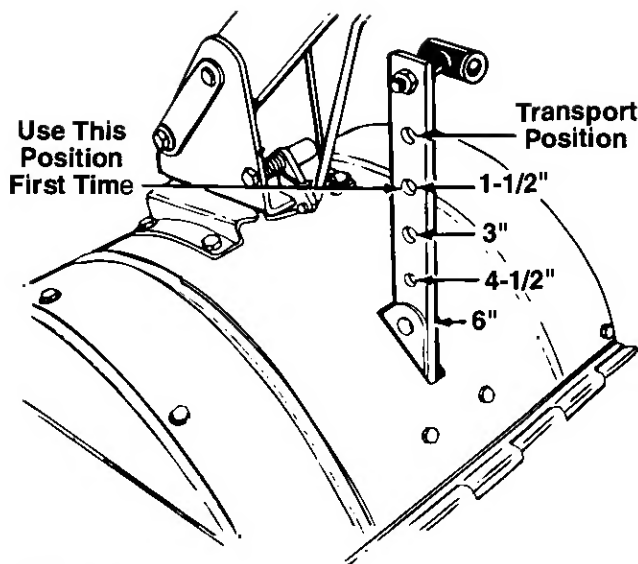
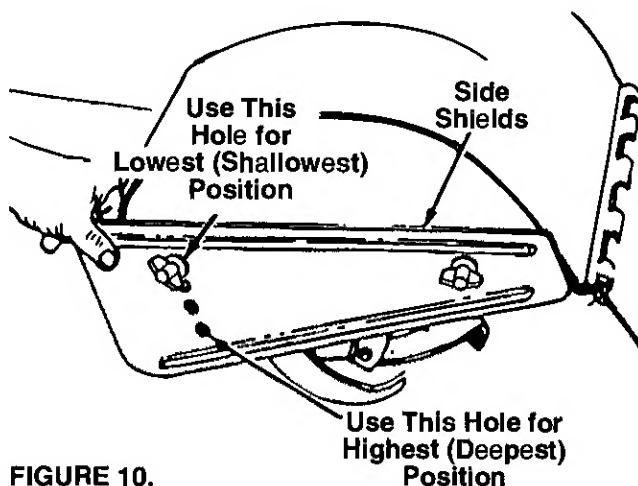

FIGURE 9.
FIGURE 10.
WARNING: When operating the tiller for the first time, use the depth stake setting that gives 1-1/2 inches of tilling depth (second hole from the top). Refer to figure 9.
Tilling depth is controlled by the depth stake which can be adjusted to five different settings. See figure 9. Adjust the side shields as shown in figure 10, as you adjust the depth stake. Be certain spark plug wire is disconnected and grounded against the engine.
1. When using the tiller for the first time, use the second adjustment hole from the top (1-1/2" of tilling depth). See figure 9.
To adjust the depth stake, remove the clevis pin and hairpin clip. See figure 9. Move the depth stake to the desired setting.
To adjust the side shields, remove the wing nuts. See figure 10. Move the side shield to the desired position. Replace wing nuts. Tighten securely.